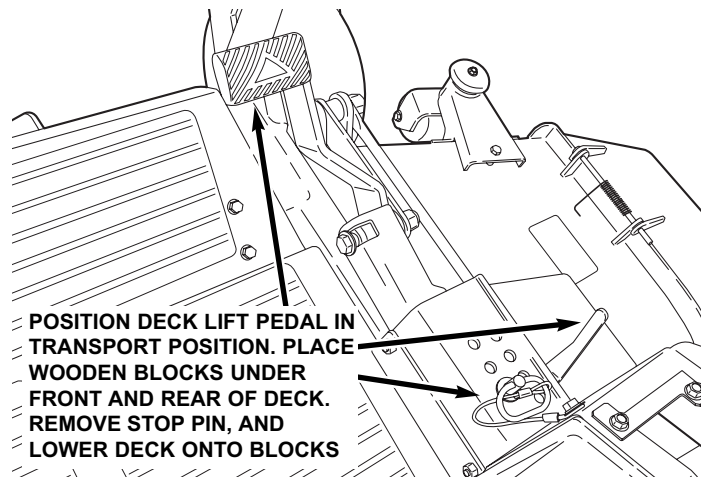

FIGURE 4.9
1. Depress deck lift pedal fully until deck locks in the transport position. See Figure 4.9.
4. Remove stop pin. See Figure 4.9.
5. Depress deck lift pedal, flip back transport lever, and slowly release pedal until deck rests on wooden blocks. See Figure 4.9. Make sure there is no tension on the deck hanger eyebolts.
11. Reinstall deck lift assist spring. Place deck in transport position. Tighten nut on eyebolt until 2 1/4" protrudes past end of nut. See Figure 4.9.